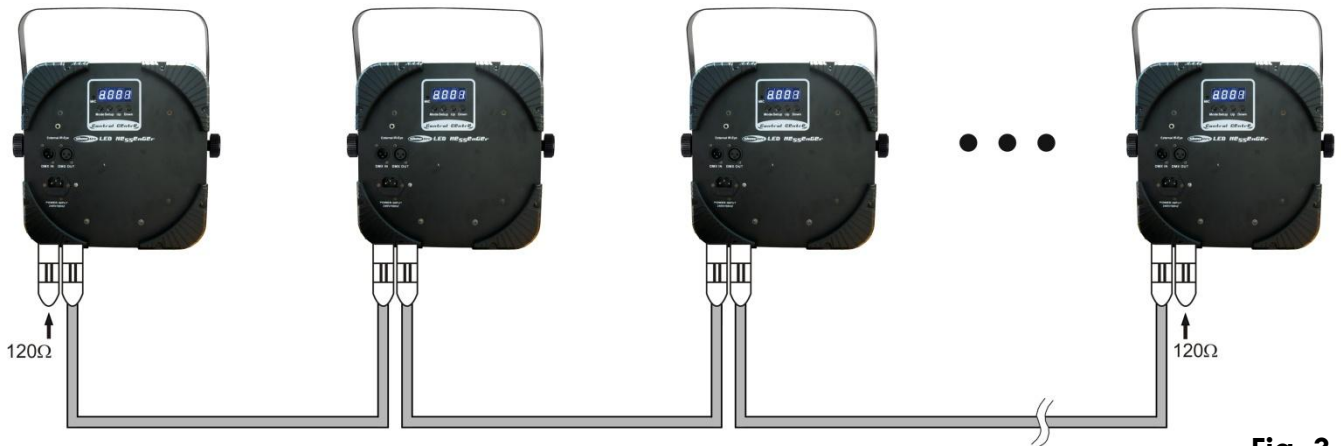

Fig. 3
3. Link the units as shown in (Fig. 3), Connect a DMX signal cable from the first unit's DMX "out" socket to the second unit's "in" socket. Repeat this process to link the second, third, and fourth units. You can use the same functions on the master device as described on page 14 (Built-in Programs, Autorun or Music control). This means on the master device you can set your desired operation Mode and all slave devices will react the same as the master device.